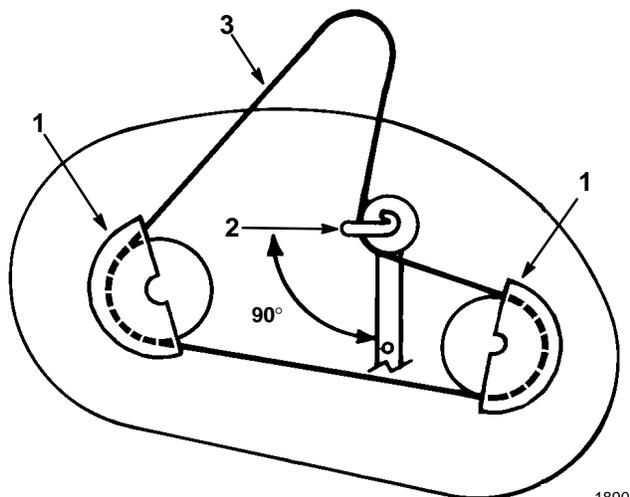

Figure 47
- Remove the pulley cover mounting screws and pulley covers from both blade pulleys (Fig. 47).
- Loosen, but do not remove the bolt and nut securing the idler pulley and belt guide (Fig. 47).
- Position the idler pulley belt guide so it points toward the left, 90° to the idler arm (Fig. 47). Tighten the mounting bolt and lock nut securing the idler pulley and belt guide.
- Install the left and right pulley covers with the mounting screws (Fig. 47).